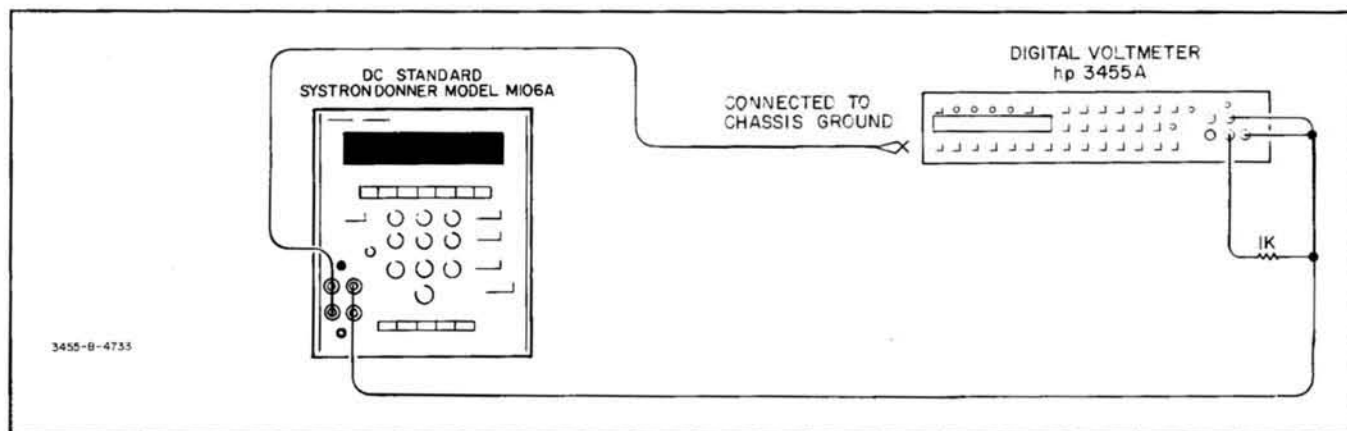

Figure 4-6. DC Common-Mode Rejection Test.
d. Connect the DC Standard (output off) between the High INPUT terminal and the chassis of the 3455A as shown in Figure 4-6.